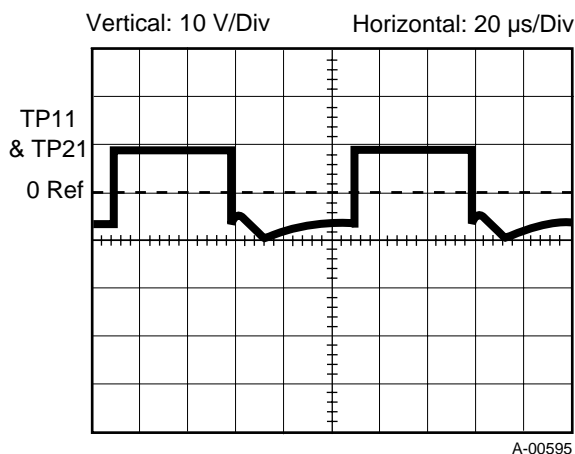

Figure 4-10 TP11 and TP21 Waveforms No Load Condition
- i. Check pulse transformer drive per the following (refer to Figures 4-10):